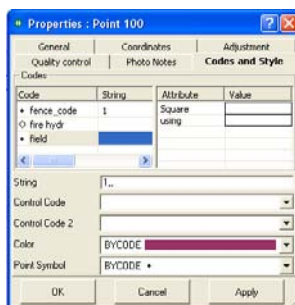

Figure 5-70. Delete Code from Point
- To delete a code from being used in the point, right-click in the left panel and click **Delete** (Figure 5-70). Any attributes associated with the code are also deleted from the point.